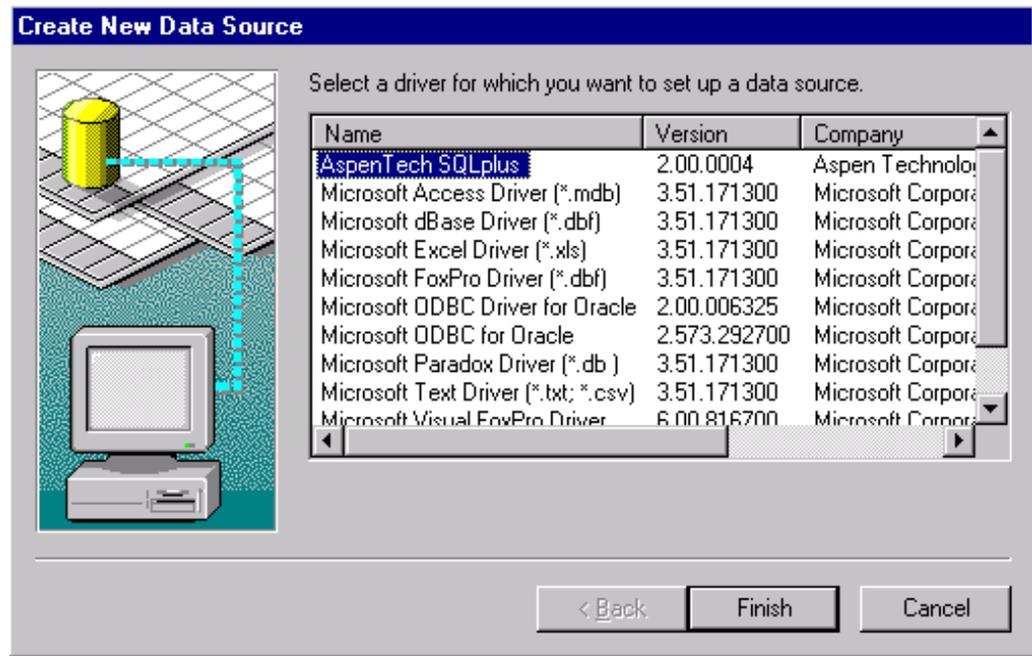

Figure A-6: Create New Data Source Dialog Box
4. Click Add. The Create New Data Source dialog box appears (Figure A-6).